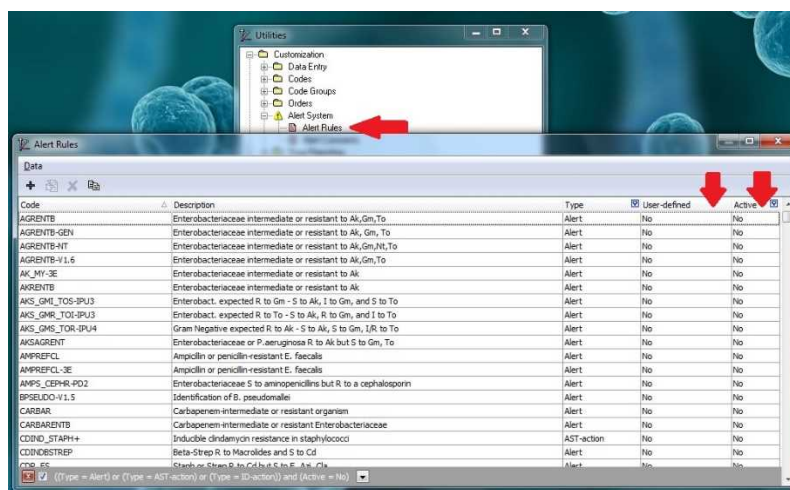

Figure 11: Alert Rules Filtering
3. To activate an inactive alert rule: From the **LabPro Command Center** menu toolbar, click **Utilities**, double-click **Customization**, double-click **Alert System**, and then double-click **Alert Rules** (See Figure 11).